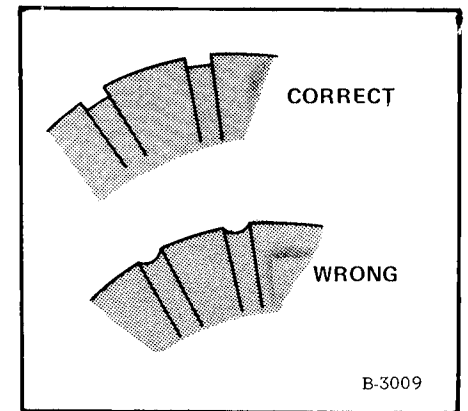

Fig. 6-27 Armature Undercut
(2) Measure the depth of the undercut mica on the commutator (Fig. 6-27). Correction is necessary, if the measured values are beyond the value indication for need of servicing.